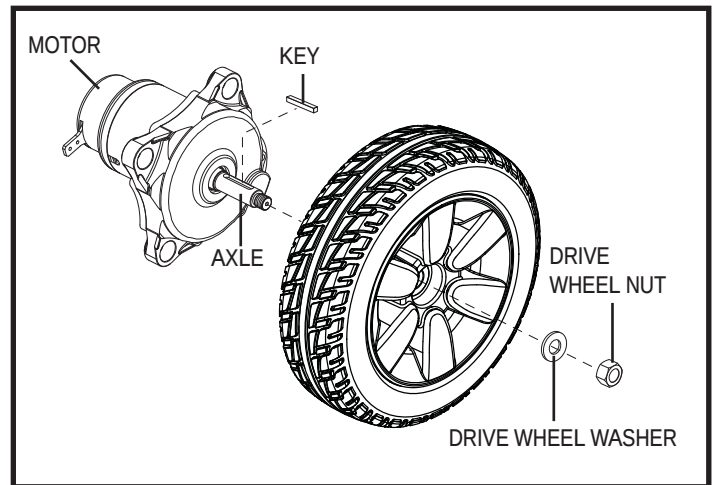

Figure 16. Drive Wheel Removal
5. Remove the hub cap, if equipped. **See figure 16.**
6. Remove the drive wheel nut and washer from the axle. **See figure 16.**
12. Reinstall the drive wheel nut and washer onto the axle and tighten. **See figure 16.**